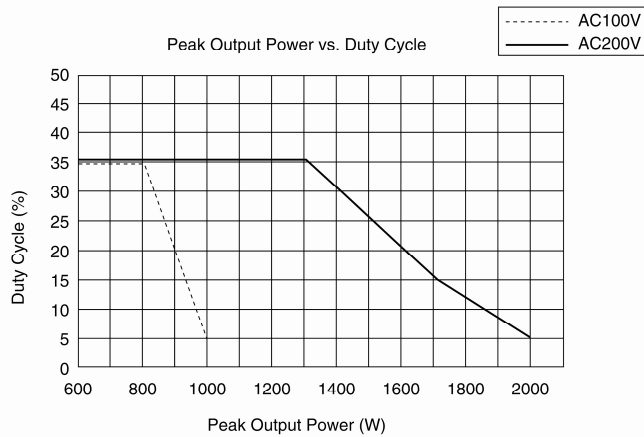

Fig. 1: Peak Output Power vs. Peak Duty Cycle Curves
Some power supplies can provide peak currents or power that is two to three times their normal output ratings. With these types of supplies, the peak ratings are specified for a limited time period and maximum duty cycle. To illustrate this Fig. 1 shows the "peak-output power" versus the "peak-duty-cycle" curves for a typical peak-rated power supply with an output voltage of 48Vdc and 600-watts average output power. The peak power duty-cycle is defined as a percentage of the total operating time.
With an input voltage of 200Vac, per the solid-line curve in Fig. 1, we can see that if we needed to pull 1800-Watts of peak output power (three-times the rated power) from this supply, we would be limited to a bit more than a 10% duty-cycle. Also, in this example, from the manufacturer’s datasheet, we know that this supply has a maximum peak power pulse-width of five seconds. When using high peak power supplies, it is necessary to operate the supply below its continuous output power rating before the next peak power pulse is drawn. This is required so that the “average power” rating, in this case 600W, is not exceeded.
As another example, from the solid-line curve in Fig. 1, we can see that if our system needed a 35% peak power duty cycle, the maximum output power would be limited to 1300W – still more than twice the normal rated power. In many applications, it is not difficult to stay within the peak-power constraints of this type of power supply and the resulting cost savings can be significant.
- Duty-Cycle = Peak Output Pulse-Width during Each Period (10%, per Fig. 1)
If we were to reduce the peak-pulse's period, or the required peak-power, or the peak duty-cycle, this would allow for more power to be available during the non-peak period. The table lists examples of various combinations of peak and non-peak power pulse durations and duty-cycle conditions for this 48V/600W peak-rated power supply (refer to Fig. 1 and Equation 1).